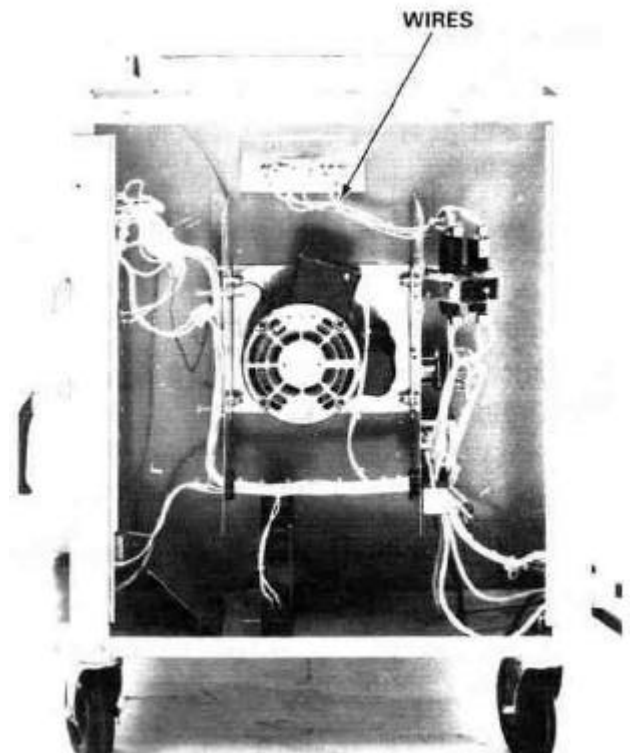

Figure 17
5. Disconnect the wires from the element(s) that are to be removed. (See Figure 17)